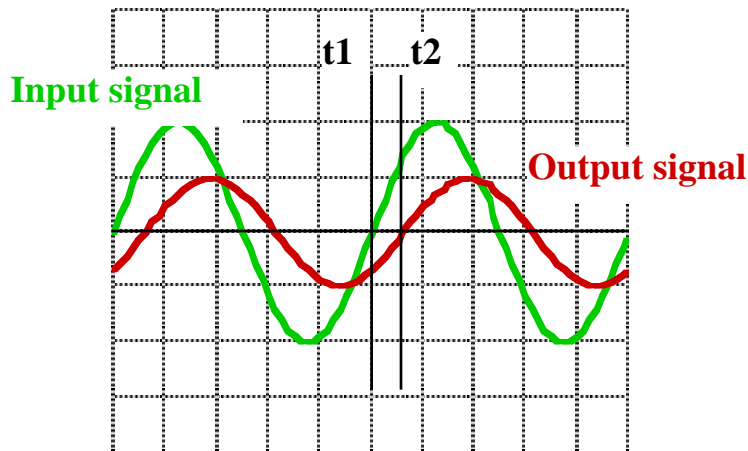

Figure 2. Measurement of phase shift.
The phase of the output wave relative to the input wave can be determined using a procedure similar to that used for measuring the period of a wave. Figure 2 shows two waveforms which represent the input to and output from a circuit displayed on an oscilloscope. Note first that the two signals have the same period and, therefore, the same frequency; however, they are shifted in time relative to each other. You will measure this time shift between the two signals, and then calculate the corresponding phase shift.
As shown in Figure 2, set the  $t_1$  time cursor at a location where the input signal crosses the time axis with a positive slope. Then set the  $t_2$  time cursor to the first following point at which the output signal crosses the time axis with a positive slope. Since, in one period the phase of a periodic wave changes by  $2\pi$  radians or  $360^\circ$ , the phase shift,  $\Delta\phi$ , is given by
- Measure the period of the input wave and record your result in Data Table 1. As shown in Figure 2, set the t1 time cursor at a location where the input signal crosses the time axis with a